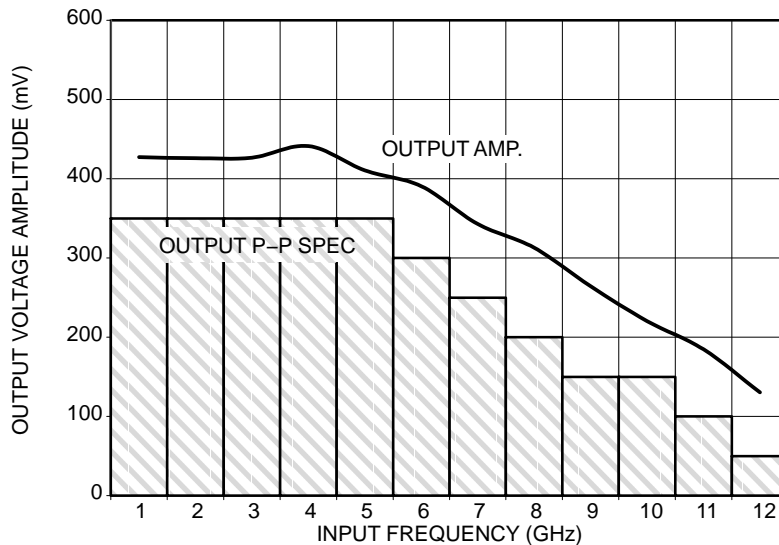

Figure 3. Output Amplitude (V_{OUTPP}) vs. Input Frequency (F_{IN}) at Ambient Temperature (Typical)
23. Measured using a 500 mV source, 50% duty cycle clock source. All loading with $50\ \Omega$ to $V_{CC} - 2.0\text{ V}$ for QFN package. For minimum f_{max} value of 10.5 GHz, output amplitude is approximately 200 mV (as shown in Figure 3, where output P-P spec is shown as a minimum/guarantee of around 150 mV). Input edge rates 40 ps (20% – 80%).